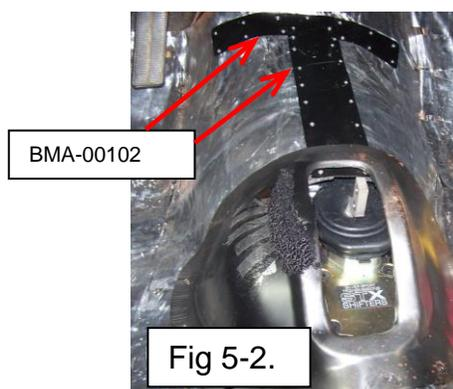

Fig 5-2.
9. With proper clearance now set on cut tunnel areas, install body metal supplied in the kit to cover the tunnel openings. Attach the (2) body metal pieces supplied with kit to tunnel with screws or rivets as shown in Fig. 5-2. Use a seam sealer such as LORD® Fuser 803DTM Metal Sealer or equivalent between new and old metal. Paint both sides for corrosion protection.